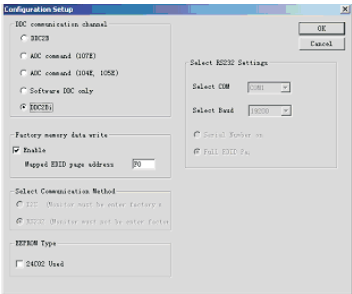

Fig.27
1. Configuration should be as Fig. 27.